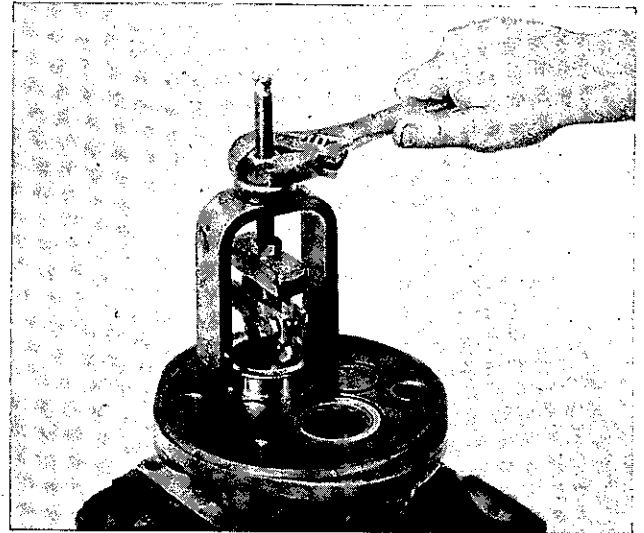

Figure 9
17. Complete the removal of bearing with a standard bearing puller. (See Figure 9). We suggest Owatonna Bearing Puller MD956-B1.